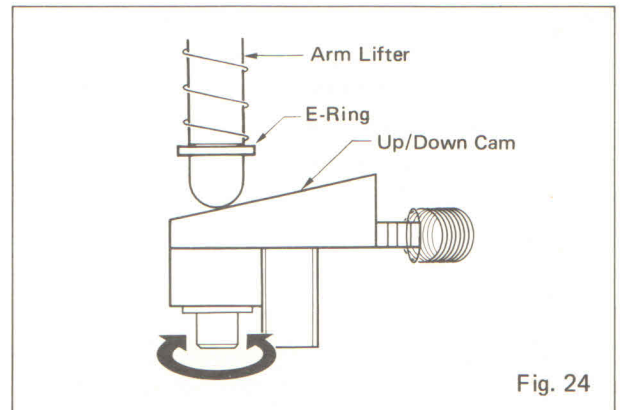

Fig. 24
- (1) The Up and Down movements of the Arm Lifter is operated by the sloped section of the Lifter Lever, as the Lifter Lever is turned by the see-saw movements of the Drive Lever. (Fig. 24)
- (2) In manual operation, the Up and Down movements of the Arm Lifter are as follows: